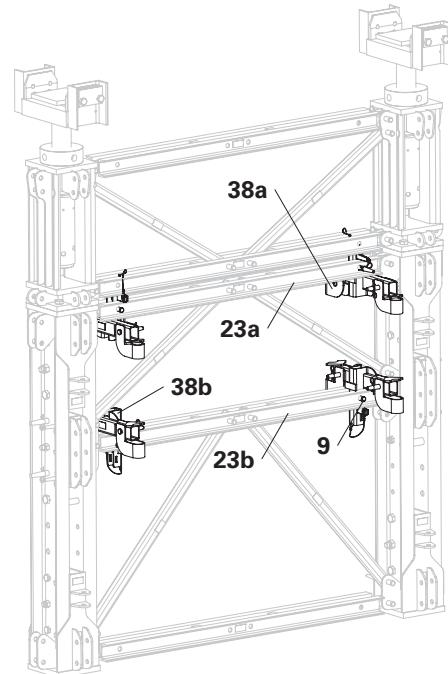

Fig. B6.01a
2. Secure connectors UP-VST (**38**) with fitting pins Ø 21 mm (**9**) or PERI wedge K (**40**). (Fig. B6.01a + B6.01b)
4. Secure connectors UP-VST (**38**) with fitting pins Ø 21 mm (**9**) or PERI wedge K (**40**). (Fig. B6.01a + B6.01b)